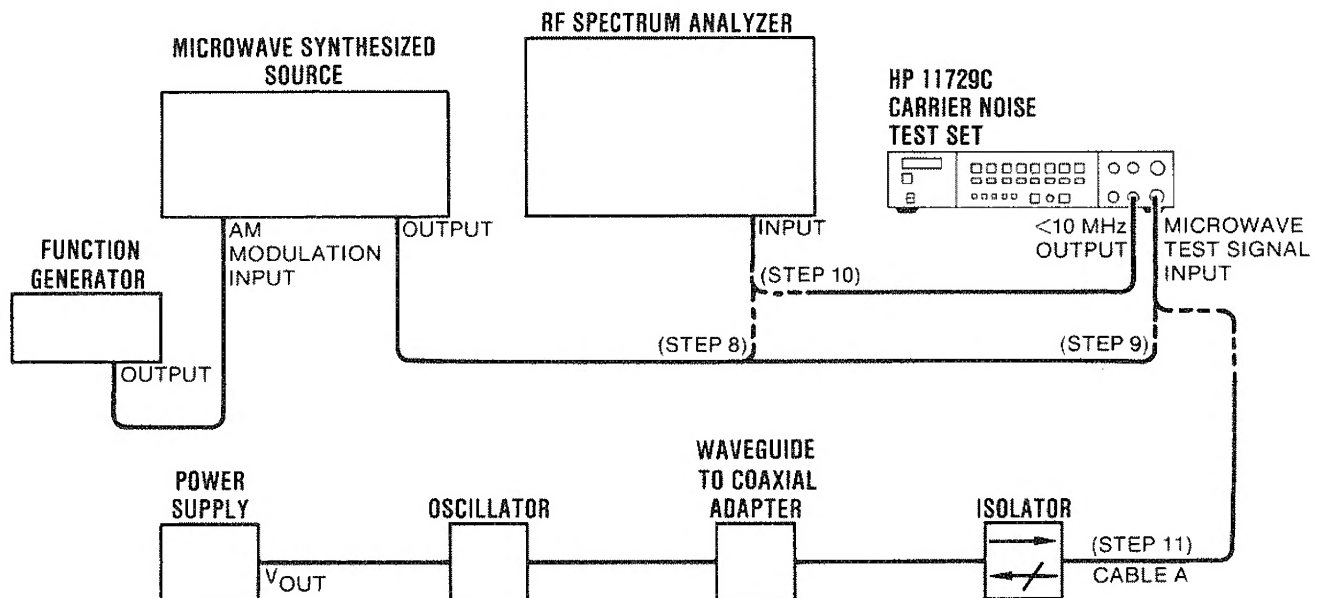

Figure 4-4. AM Noise Floor Test Set-up
1. Connect the equipment as shown in Figure 4-4.